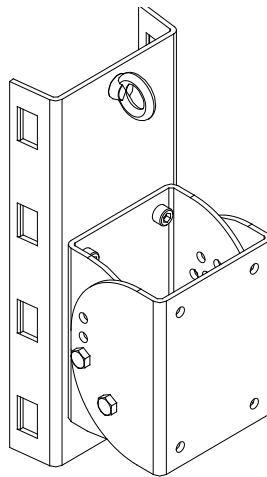
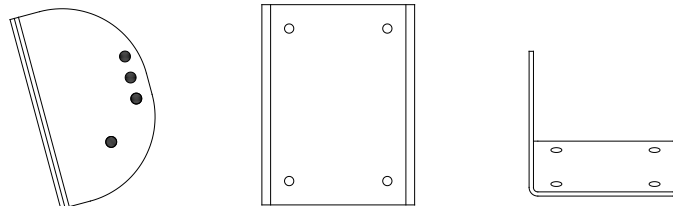

Figure 1
Figure 2
Figure 1 represents the isometric and top views of the pole bracket, including the loudspeaker bracket section. The loudspeaker bracket is shown separately in Figure 2.
1. Mount the pole mount section (see Figure 1) of the bracket to the pole at the desired height on the pole. The loudspeaker bracket shown in Figure 2 should be removed prior to hanging the pole mount section. The bracket is mounted to the pole using BAND-IT stainless steel bands. **DO NOT SUSTITUTE** bands of other material or other widths! There are **FOUR (4)** locations on the pole bracket for bands. **ALL FOUR LOCATIONS MUST BE USED.** Figure 4 illustrates the locations for the stainless steel band clamps.
5. The loudspeaker may now be placed on the pole bracket (main bracket) (see figures 1 and 2).